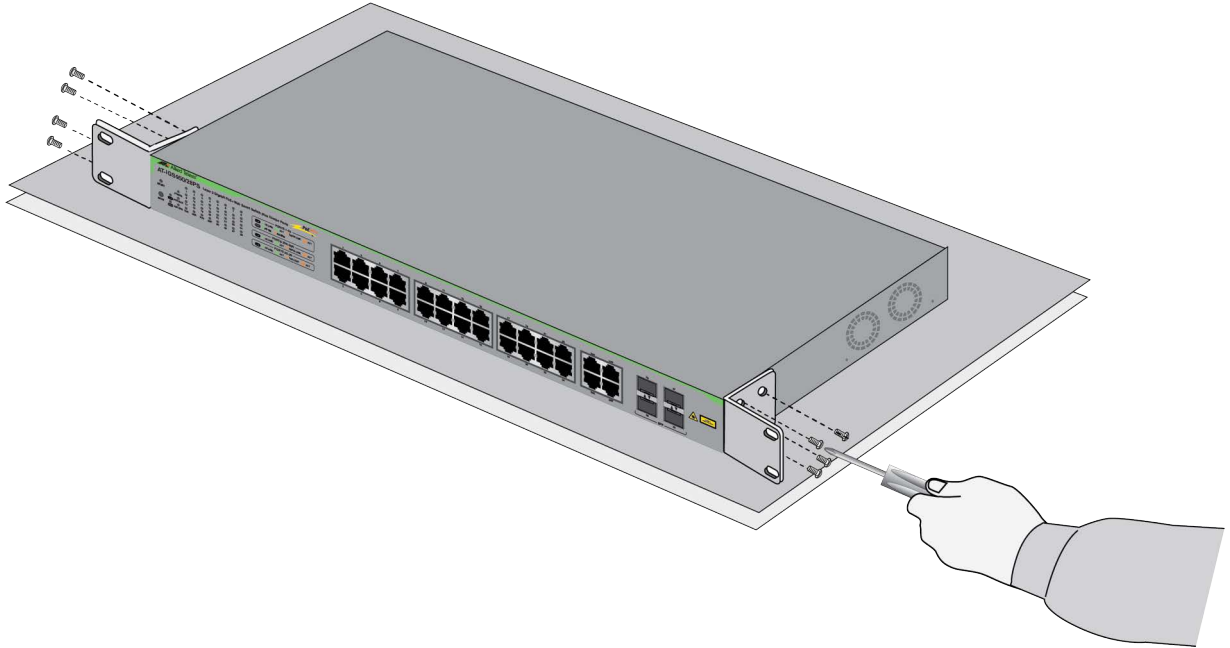

Figure 23. Attaching the Equipment Rack Brackets
4. Attach the two rack mount brackets to the sides of the switch in the selected positions, with the eight M3x6mm screws included with the unit. Figure 23 shows the brackets positioned so that the front panel is even with the front of the equipment rack.